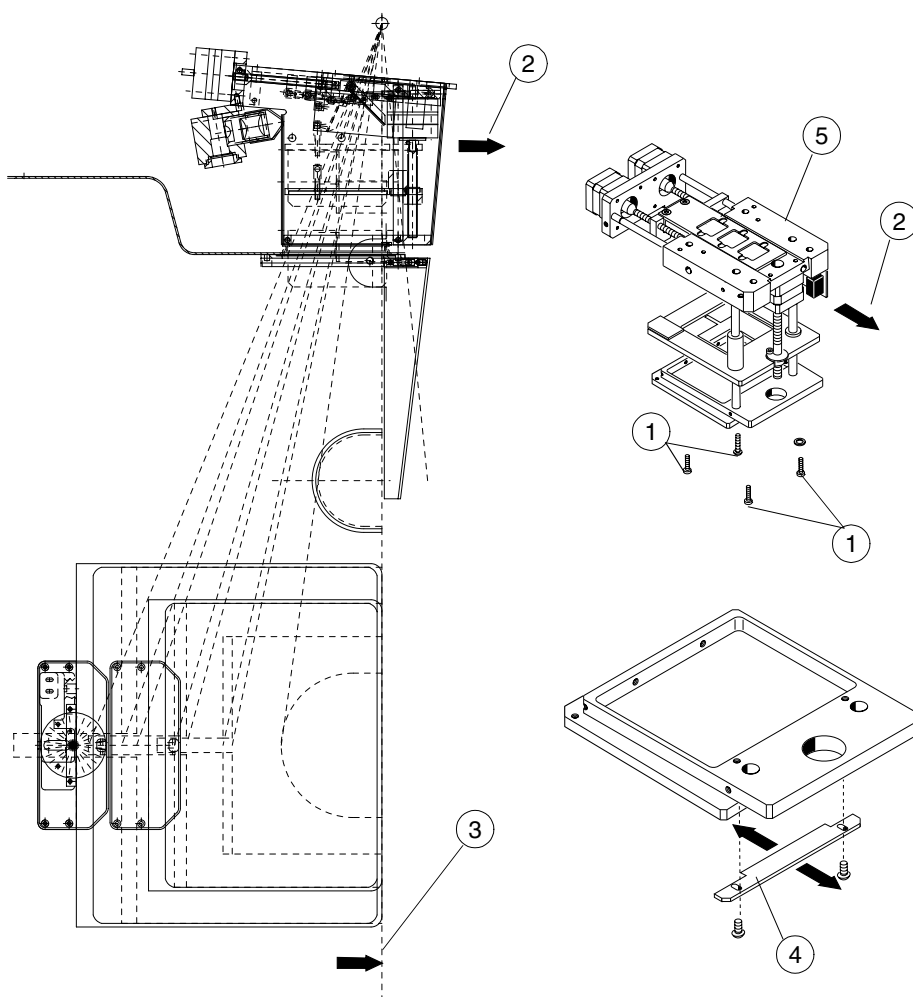
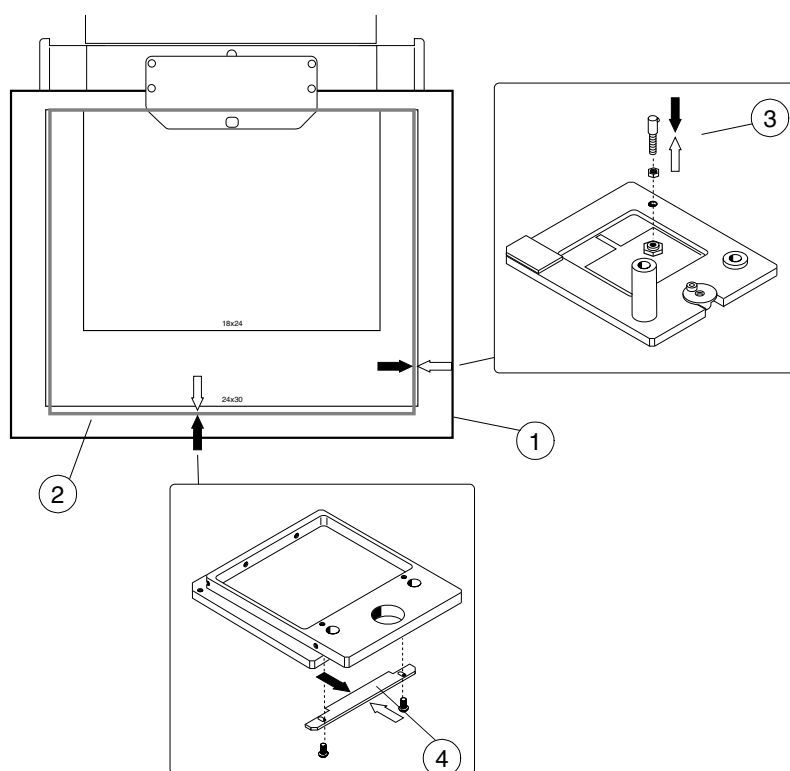

Figure F.2
Figure F.3
- Loosen the collimator screws (Fig. F.2, 1) and pull the collimator assembly to the front at the TUBEHEAD (Fig. F.2, 2), to make sure that the X-ray beam reaches over the cassette table front edge (Fig. F.2, 3).
- The final adjustment of the X-ray beam front edge is performed with the stationary collimator primary front edge (Fig. F.2, 4).
- c) Place the fluorescent screen on the cassette table (Fig. F.3, 1). Enter the service mode (see "How to enter / exit the service mode" on page C-4.).
- f) Check that the yellow area is straight and symmetrically according to Fig. F.3, 1 and 2 (rectangle marked off in grey).
- g) The side direction adjustment is performed by moving the collimator magnet holder (Fig. F.3, 3).
- h) The front edge adjustment is performed by moving the stationary collimator primary front edge (Fig. F.3, 4).
- d) Check that the exposed area is straight on the film. Adjust the collimator magnet holder when needed (Fig. F.3, 3), and if that does not correct the situation, turn the collimator assembly slightly (Fig. F.2, 5).
- h) If needed, the front edge adjustment is performed by moving the stationary collimator primary front edge (Fig. F.3, 4).